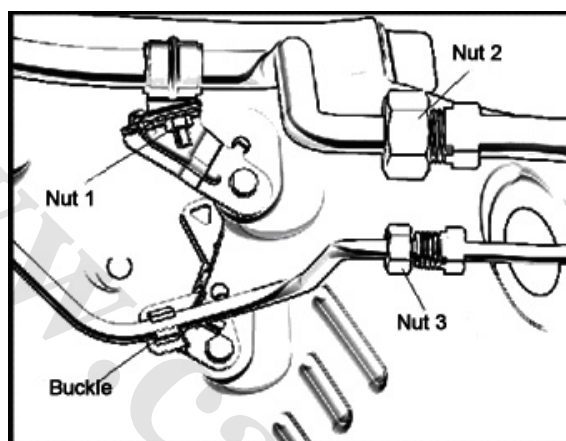

Figure 6-36
- (1) When disassembling pipeline, be cautious that both butt joints should be sealed. The seal material applied should resist the corrosion of R134a to prevent foreign matters and water entering pipes.
- (2) For pipeline installation, restore all the buckles and pipe straps to the original positions, as shown in Figure 6-36.